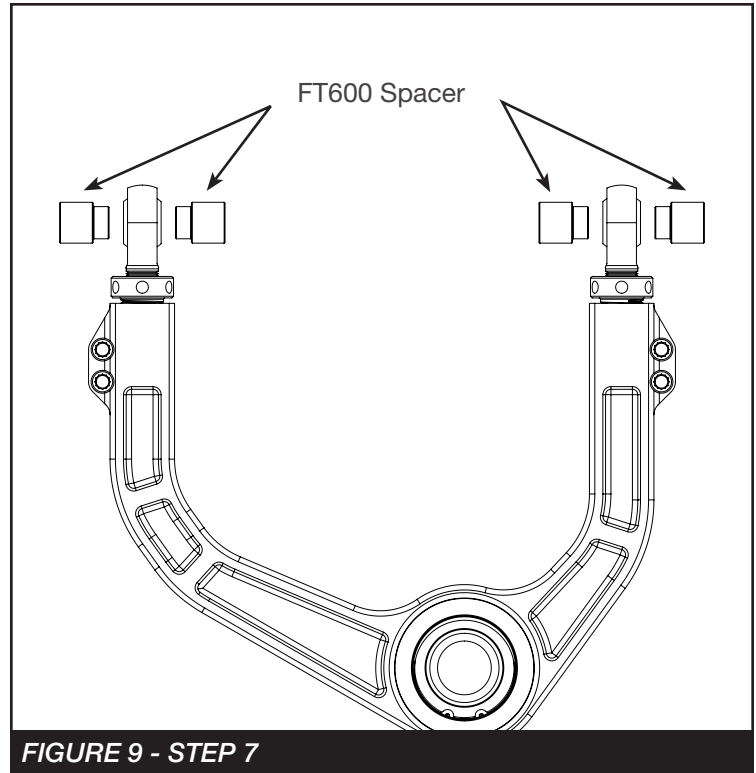

FIGURE 9 - STEP 7
7. Install (4) FT600 (spacers) into the rod ends. Then, install into the factory control arm pockets using the factory hardware. Torque to a 148 ft-lbs. **SEE FIGURE 9**